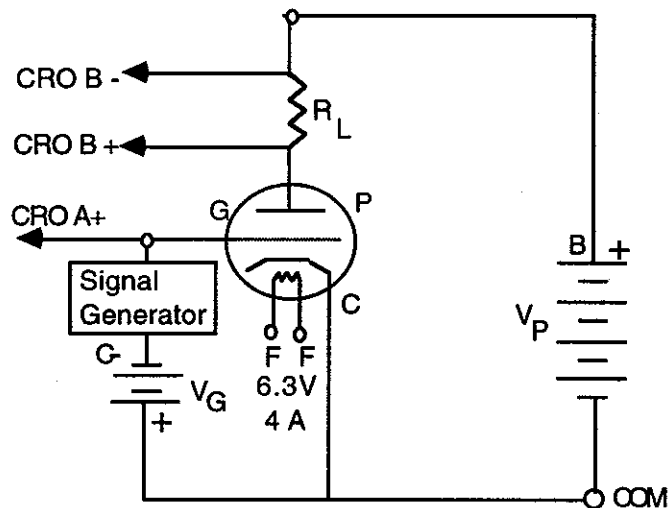

Fig. 4. A Simple Amplifier
A simple amplifier circuit is shown in Fig. 4. The sine wave signal V_i from the signal generator is connected in the grid circuit. This signal is displayed on channel A of the cathode ray oscilloscope. A load resistor R_L is connected in the plate circuit and the amplified output signal obtained across R_L is displayed on channel B. The grid bias and
- (f) Measure the load resistance R_L by using the multimeter. Set up the circuit as shown in Fig. 4. Adjust the amplitude of the sine wave of the signal generator to about 2 volt and frequency to about 5000 Hz.
4. In Fig. 4, which shows a simple amplifier circuit, CRO channel A displays _____ and CRO channel B displays _____